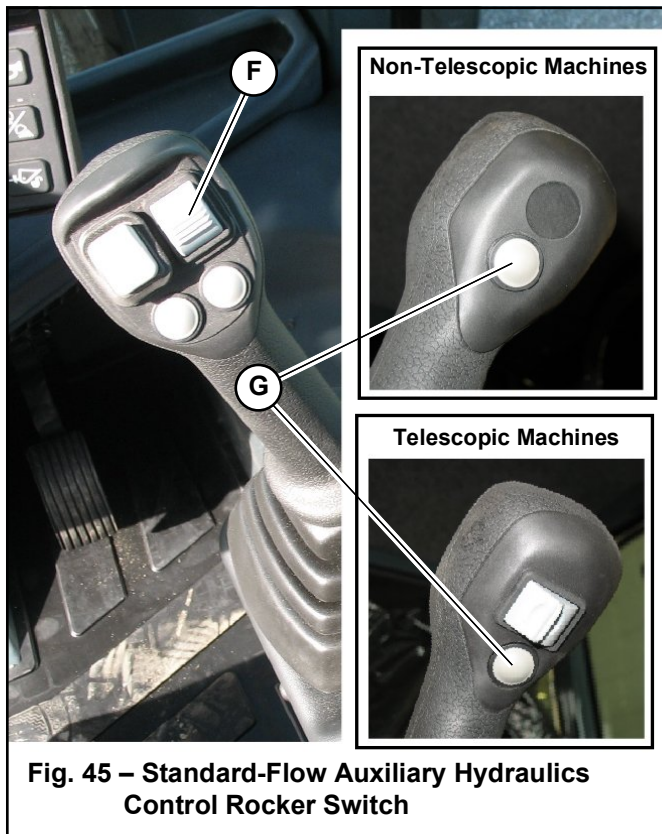

Fig. 45 – Standard-Flow Auxiliary Hydraulics Control Rocker Switch
Rocker switch (F, Fig. 45) controls the direction and amount of standard-flow auxiliary hydraulics.
Rocker switch (F, Fig. 45) and trigger button (G) operate the 2nd auxiliary hydraulics flow in the same manner as standard flow.